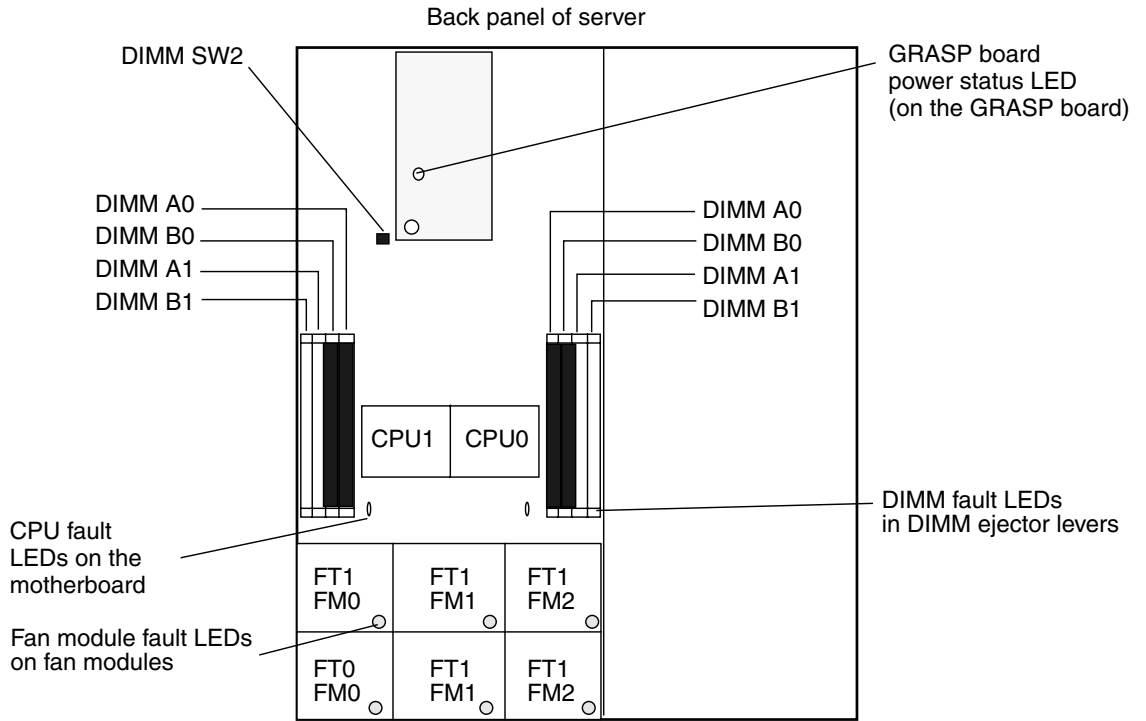

FIGURE B-4 Sun Fire X4100 M2 and Sun Fire X4200 M2 Internal LED Locations
- For the Sun Fire X4100/X4200 M2 servers, you can view the DIMM fault LEDs without the power cords attached. These LEDs can be lit by a capacitor on the motherboard for up to one minute. To light the DIMM fault LEDs from the capacitor, push the small button on the motherboard labeled “DIMM SW2.” See FIGURE B-4.
FIGURE B-4 shows the internal LEDs in the Sun Fire X4100/X4200 M2 servers.